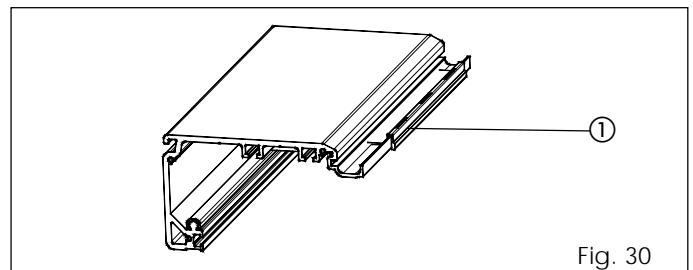

Fig. 30
- Fit three spacers (fig. 30 ref. ①) on the outer edge of the support profile, positioning them at the ends and at the centre.